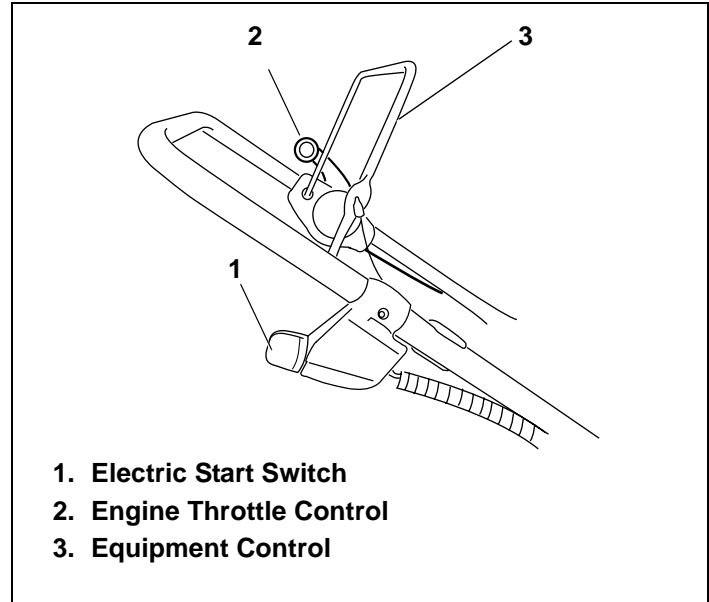

Figure 12. Typical Engine Controls
2. Move engine throttle control to "FAST" position, if present (see equipment manufacturer's instructions). See Figures 12 and 13.
4. Operate equipment control to release engine brake or clutch, if present (see equipment manufacturer's instructions). See Figure 12.
2. Move engine throttle control to "CHOKE" or "START" position, if present (see equipment manufacturer's instructions). See Figures 12, 13 and 16 starting on page 7. Afterward, continue reading instructions below.
*If restarting a warm engine after a short shutdown, move engine throttle control to "FAST" position instead of "CHOKE" or "START" position. See Figures 12, 13 and 16 starting on page 7. Afterward, continue reading instructions below.*
3. Operate equipment control to release engine brake or clutch, if present (see equipment manufacturer's instructions). See Figure 12 on page 7. Afterward, continue reading instructions below.